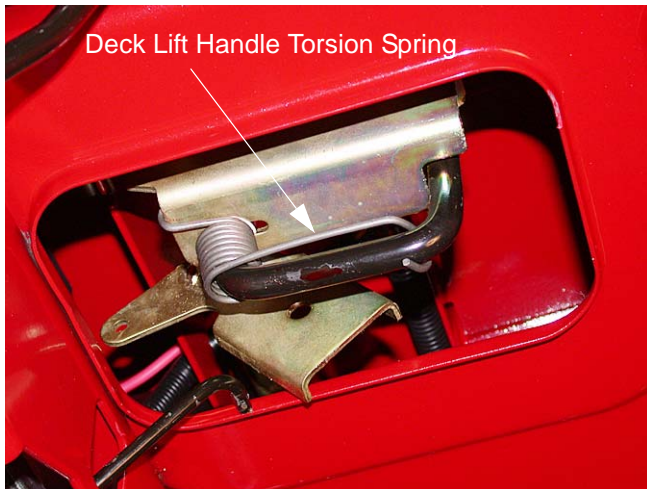

Figure 17.14
- 17.14. Carefully release the tension on the deck lift handle torsion spring. See Figure 17.14.